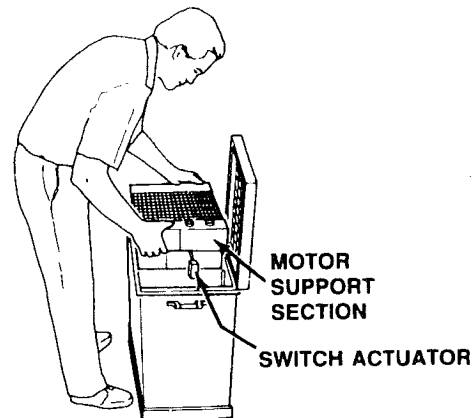

Figure 13
4. Lift out the motor support section and wipe off any mineral deposits with a clean cloth. (Fig. 13)